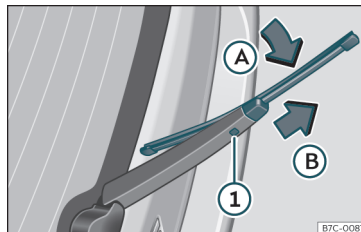

Fig. 37 Changing the rear wiper blade
- Turn the blade slightly »» Fig. 37 (arrow ❶).
- Hold down the release button ❶ while gently pulling the blade in the direction of arrow ❷.
- Insert a new blade of the **same length and type** in the rear wiper arm in the opposite direction to the arrow ❷ and hook into place button ❶.